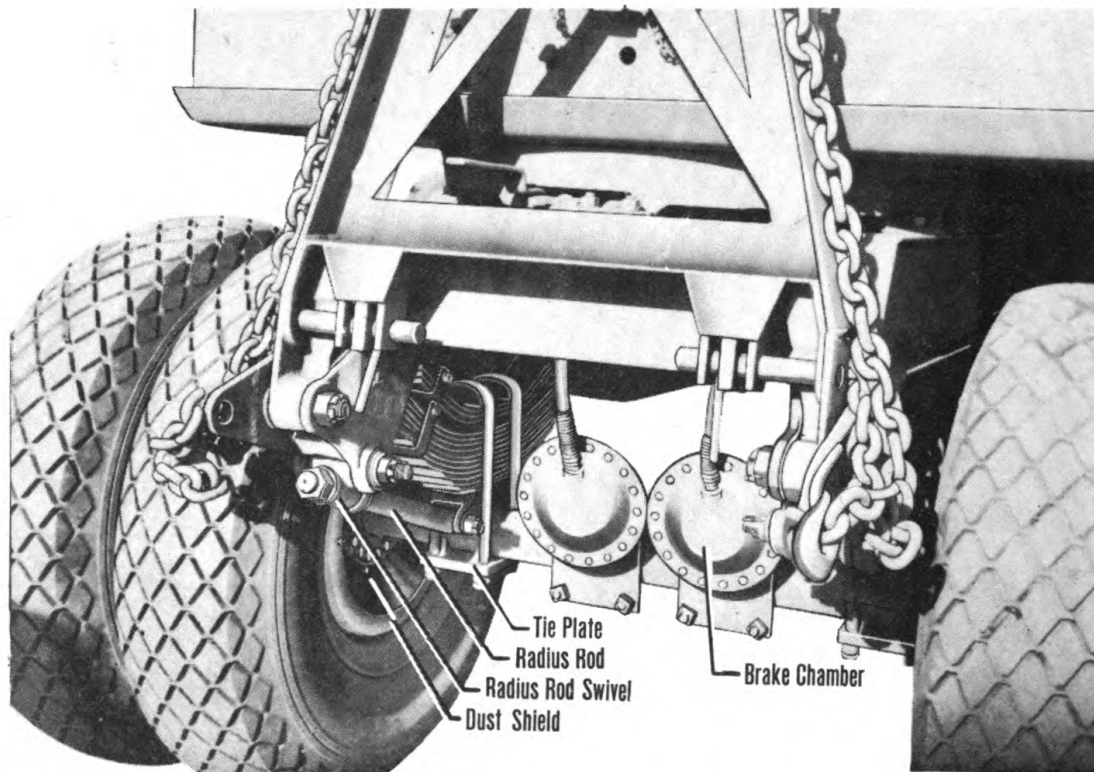

Figure 15—Front Undercarriage of Dolly.
7. Remove the cotter pin, castellated nut and bolt holding the radius rod swivel (figure 15) to the spring hanger; slip out the bolt and rubber bushings, releasing the swivel from the hanger.
5. Disconnect the air hose lines from the front brake chambers. (See figure 15.)
8. Disconnect the radius rod (figure 15) at its axle end by removing the locking cotter pin, castellated nut and bolt that holds it to the spring seat welded to the axle.